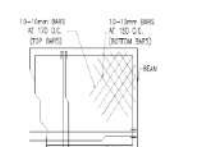

FIGURE 10: CORNER CASE
6. PROVIDE BARS REINFORCEMENT FOR CORNER SLAB TWO ADJACENT DISCONTINUOUS EDGES AS SHOWN BEHIND AND AT END OF CORNERS OF SHEAR WALL (See Fig. 10).